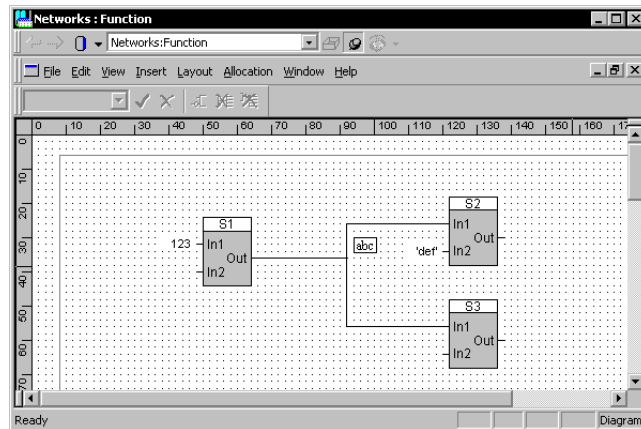

Figure 42. 1 : N Network ($N = 2$)
- In Figure 42, S3:In1 was connected to variable abc. A 1: N network, $N = 2$, gets automatically created with two links named abc.